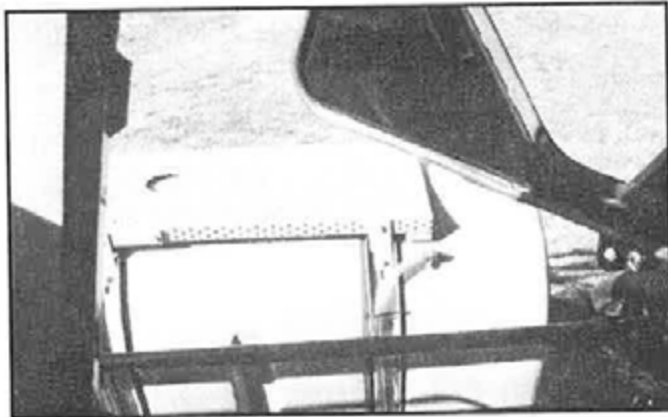
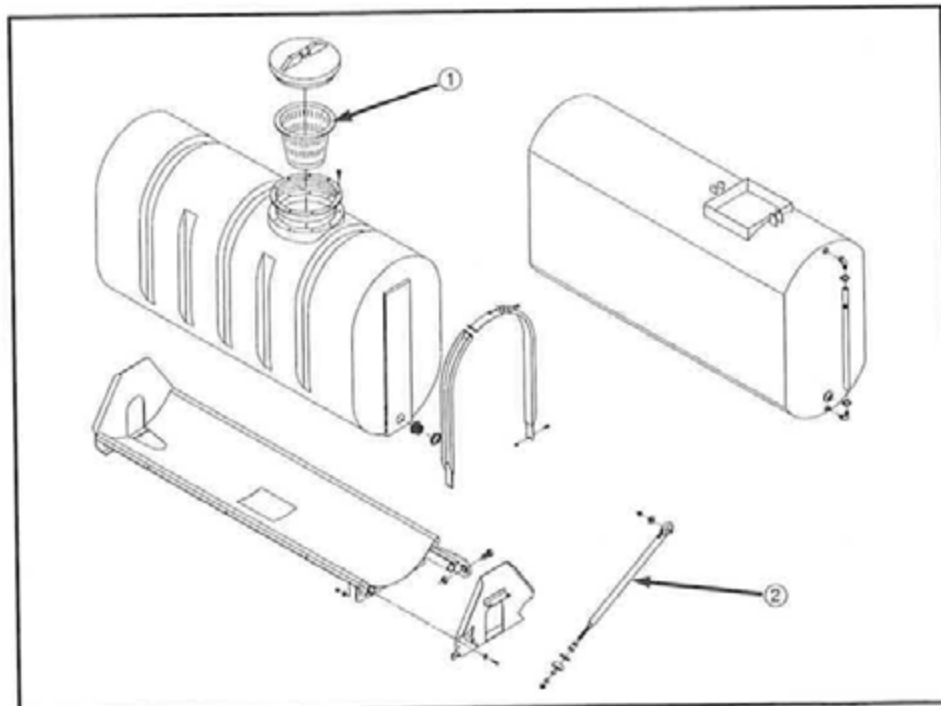

FIG 5.50
FIG 5.51
The model 254x-11 comes equipped with either two 250-gallon polyethylene or stainless steel solution tanks equipped with mechanical agitation (see pages 58-59). These tanks are held in place by a cradle support rod (fig. 5.51, item 2). See the next page for tank cradle adjustment.
The strainer on top of each tank (fig. 5.51, item 1) should always be in place to catch debris or objects from falling into the tank when the tank lid is removed. Both solution tanks come equipped with sight gauges showing solution level (fig. 5.50).